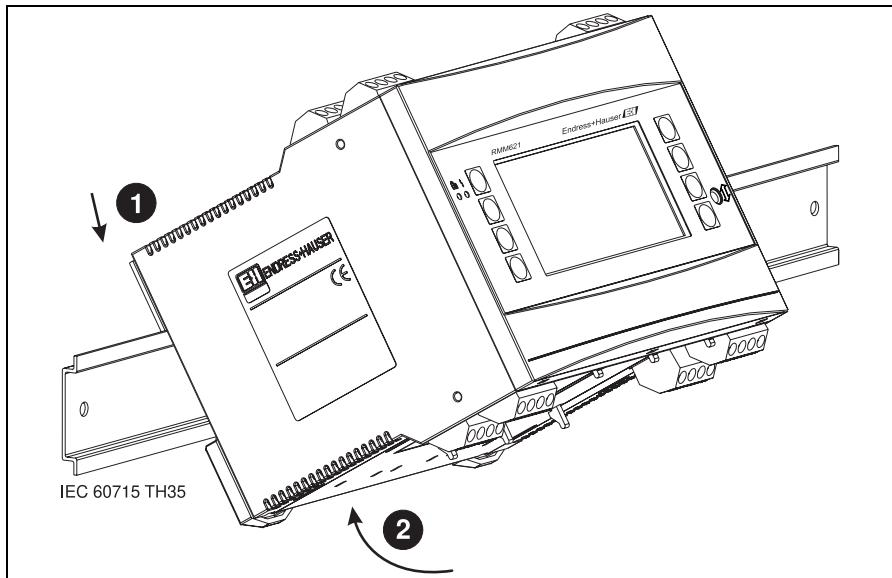

Fig. 3: Mounting device on top-hat rail
Snap the housing onto the top-hat rail by first hanging the device on the top-hat rail and then pressing it down gently until it engages (Fig. 3, items 1 and 2).